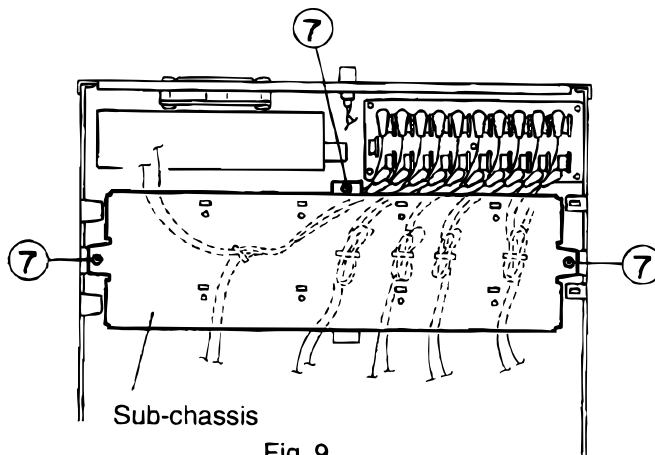

Fig 9
3. Remove the three screws 7 securing the sub chassis (Fig.9).